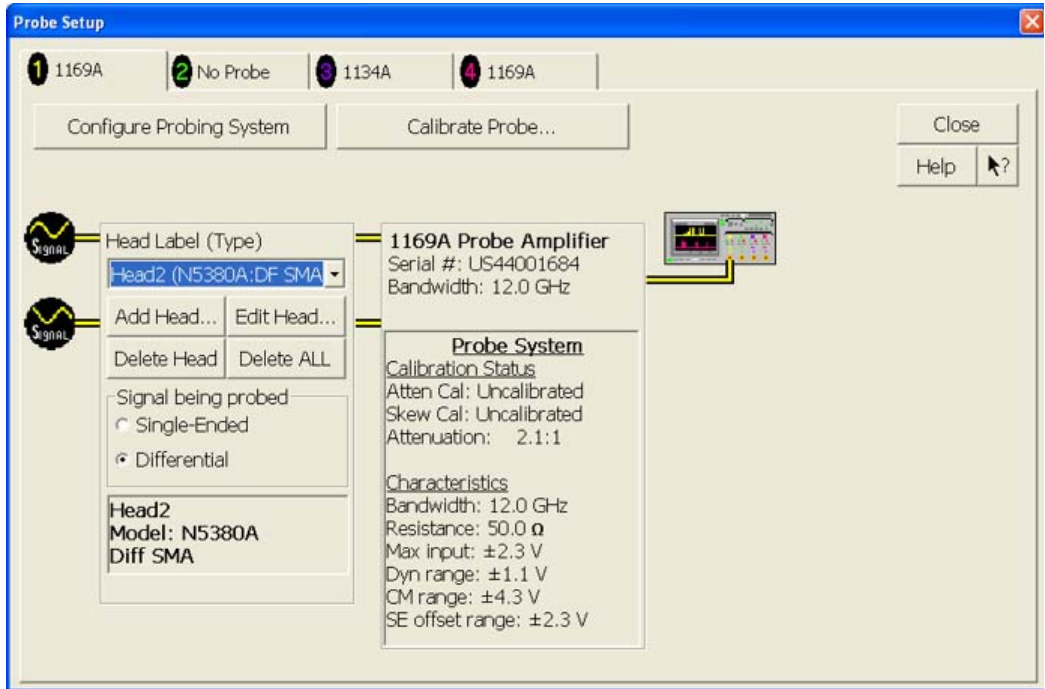

Figure 109 Probe Setup Window.
- 2 Referring to Figure 109 below, perform the following steps: